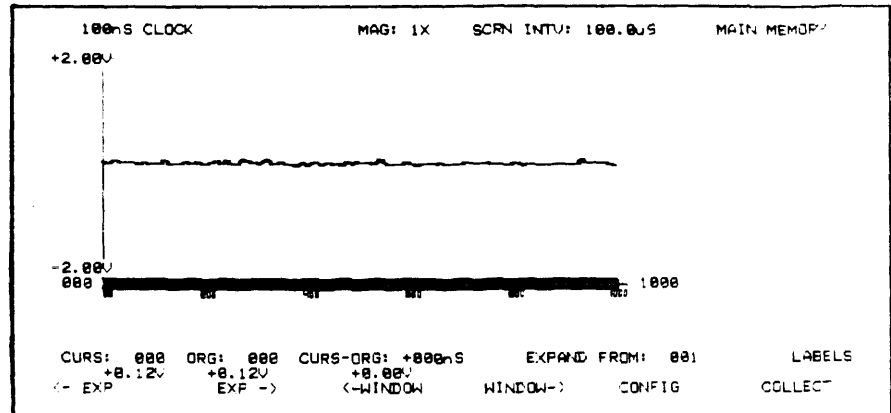

Figure 2-4. Waveform display without an input signal.
3. Press the **COLLECT** key. Since the Model 90 (10X/1X) scope probe is not connected and there is no input signal, the waveform display will contain only a baseline as shown in Figure 2-4. (If the Waveform Option is not installed, the display will not contain the baseline.) See Section 6.2.3 for additional waveform collection examples.